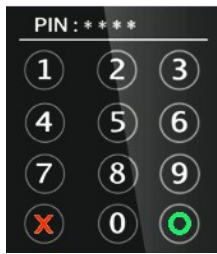

Figure 6
After inserting the chip card, Press the numeric key as below keypad (**Figure 6**) to enter the desirable numbers on touch panel. Press Cancel (X) key to terminate any current function and press the Enter (O) key to confirm a value or an option.